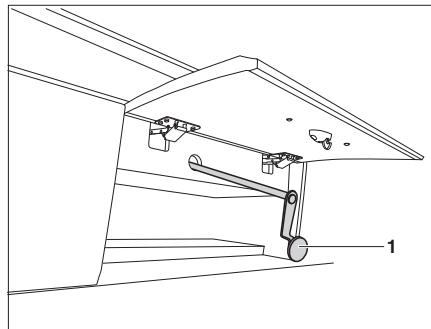

Fig. 148 Emergency operation for the electrical pull-down bed
- ▷ In the case of a power failure the electrical pull-down bed can also be moved with an emergency crank (Fig. 148). This is located behind a storage compartment flap.